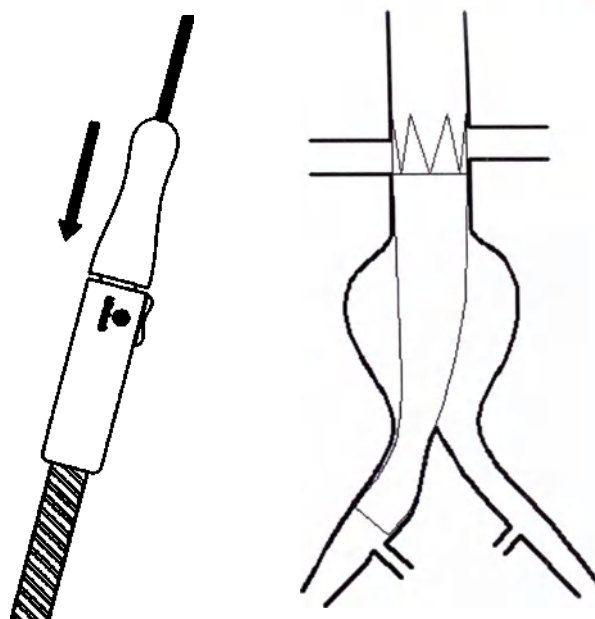

Fig. 9 Remove the delivery system
- Hold the slider grip of the delivery system stationary, unlock the trigger and pull back the front grip to make the tip back to the distal end of the out sheath. And then remove the delivery system.(Fig. 9)